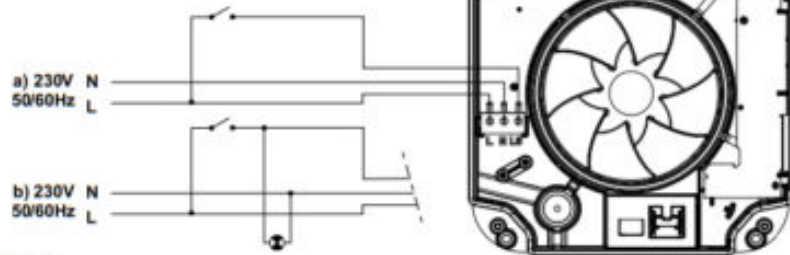

Fig. 6
IMPORTANT: The power supply cables must be run through the cable gland and the cable retention system as shown in labels 5 and 9 in Fig.2. The cross-section of the power supply cable must be at least 0.5mm². To control the fan via a Ls, the options shown in Fig. 6, 7 and 8 should be used (depending on the version chosen).
- **Standard Model with Timer (QRST):** This has several operating modes to vary the speed of the fan with over-run timer. The QRST version must be connected as shown in Fig. 6. with three wires for switching from trickle to boost speeds (external switch and Ls).